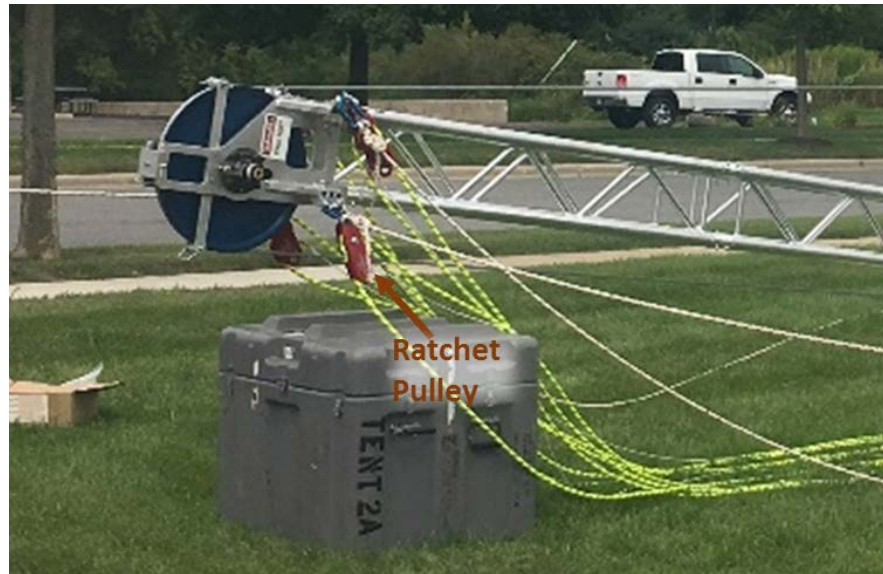

Figure 10: BID Crown Sheave with Rigging. Ratchet pulleys for tent on lower shackles and tower guy lines on upper shackles.
- 10.1.6 Route drill cable through lifting sheave and crown sheave and use lifting harness and webbing to secure cable end to two front swivel eyes on tower base (Figure 10).